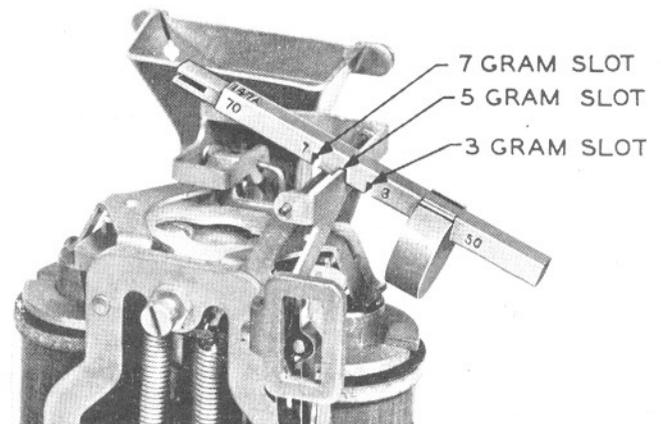
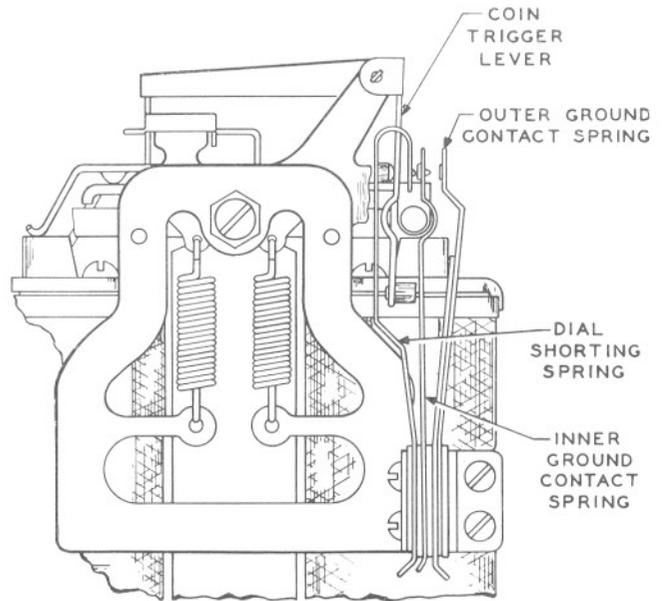

FIG. 6 — GAUGE FOR GROUND SPRING CONTACT PRESSURE
FIG. 11 — 3-SPRING (DIAL SHORTING) RELAY — CONTACT SPRING GUARD CUT AWAY
5.05 Ground spring contact pressure shall be minimum 5 grams measured with the 147A gauge (see Fig. 6). Proceed with test as follows:
1. With ground lead connected to coin collector, place 5-gram slot of 147A gauge on horizontal portion of coin trigger lever (see Fig. 6).
7.02 With the coin trigger and operating arm in their normal positions, the dial shorting spring (see Fig. 11) shall follow the inner ground contact spring for a minimum of 0.010 inch; judge visually.
7.03 With the coin trigger tripped and the operating arm in its normal position, the force required to open the contacts between the inner and outer ground contact springs (see Fig. 11) shall not be less than 3 grams. This pressure shall be measured with the 147A gauge (see Fig. 6).